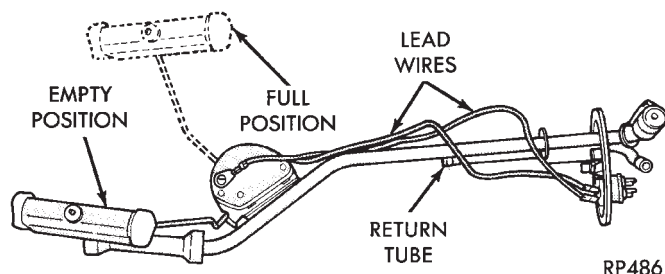

Fig. 12 Fuel Tank Sending Unit—Typical
(1) Test fuel tank sending unit (Fig. 12) as follows: